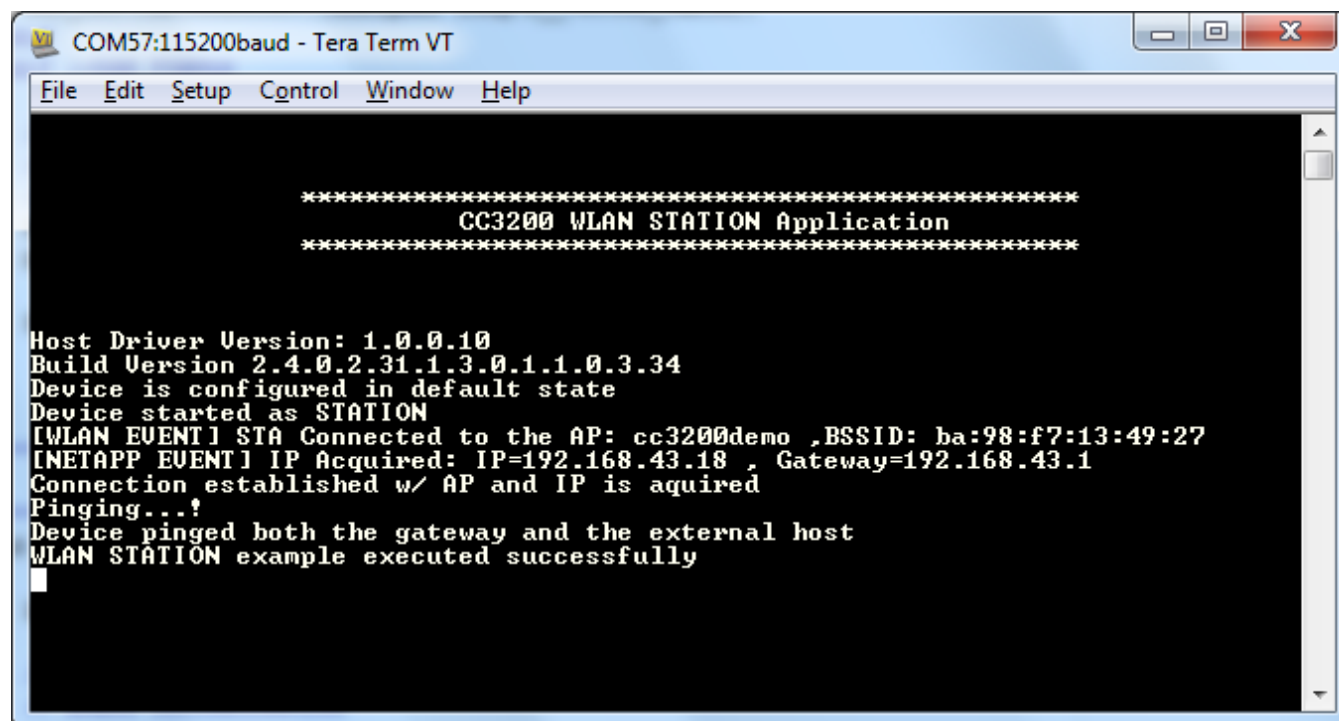

Figure 16. Tera Term VT
19. If the CC3200 successfully completes all steps, the serial output appears as shown in Figure 16.